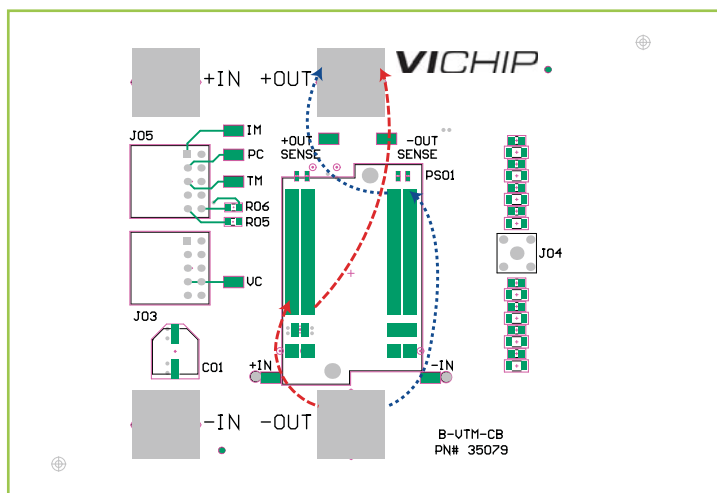

Figure 22 — Equal current path
- The total current path length from any point on the  $V_{+OUT}$  J-leads to the corresponding point on the  $V_{-OUT}$  J-leads should be equal (see Figure 22).